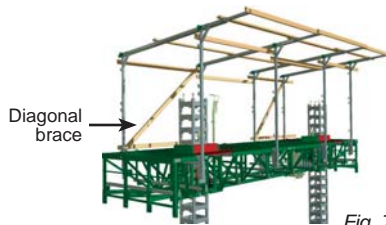

Fig. 7.50
- 1- With the motorized unit at base level, slide a bottom support assembly under the motorized unit or the bridge (fig. 7.42). Hook the clamp-end tubes (fig. 7.50) on the deck.